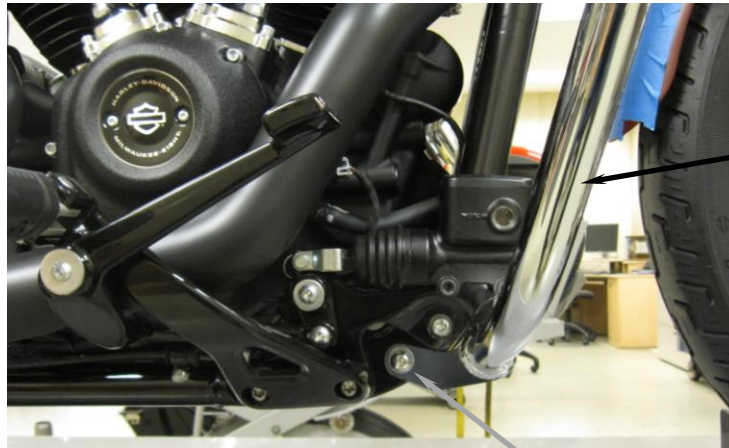

FIGURE 02
5. Slide the lower freeway bar mounts over the outside of the lower frame down tubes and align the holes. Then insert the 3/8-16 buttonhead bolts, with flat washers, through the lower freeway bar brackets and into the threaded holes on the lower frame down tubes. See **FIGURE 02**. Snug the bolts but do not tighten at this time.